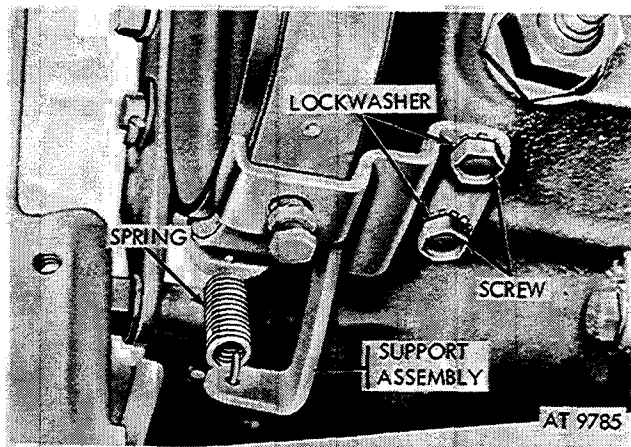

Figure 2-363. Band-aligning screw support assembly.
- (2) Disconnect band-aling screw support assembly (fig. 2-363).